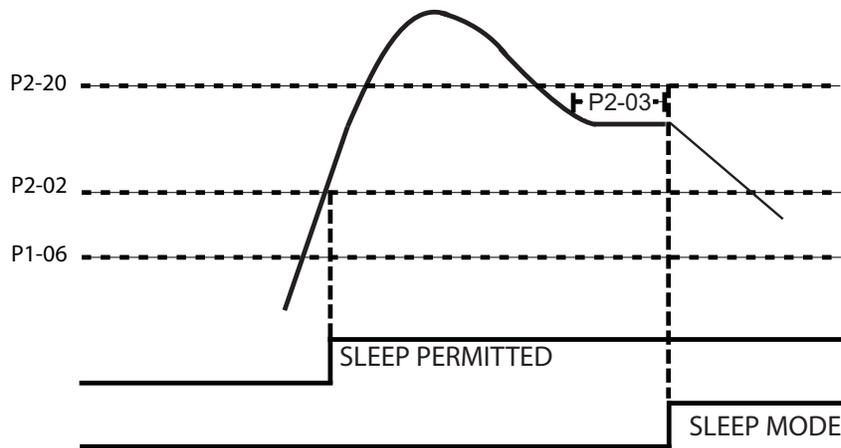

Figure 126.
- When P2-20 is greater than 0 and less than P2-02, the output frequency must be greater than Alternative Sleep Activation Level (P2-20) and Sleep Level (P2-02). See Figure 126.